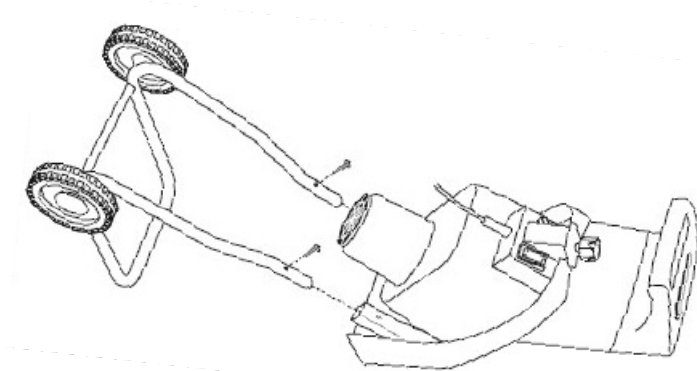
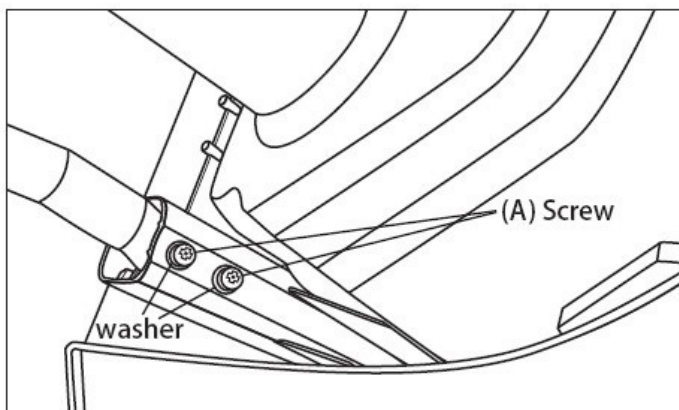

Fig.3
Fig.4
5. Turn the main body upside down, insert the two ends of the stand assembly into the housing, align the holes on the housing and stand assembly, insert the four washers onto the screws (A) and install into the stand assembly. (Fig. 3 and Fig. 4)